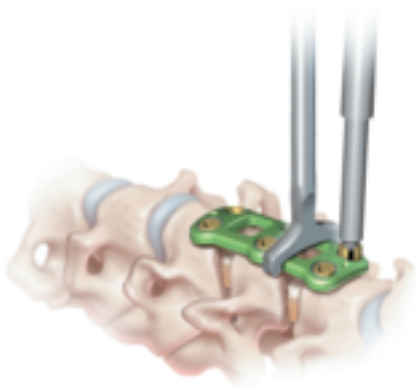

Figure 13
**Note:** The anti-torque device may be used as shown to hold the plate in place during screw removal (Figure 13).